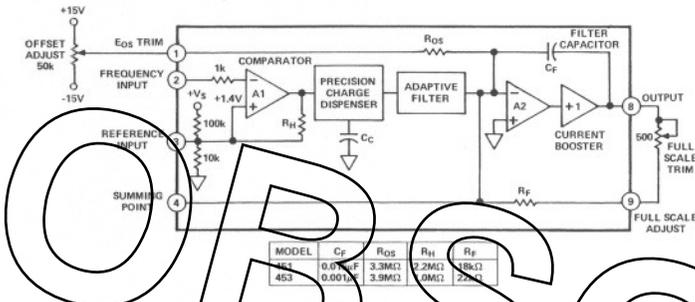

Figure 1. Block Diagram Models 451 & 453 F/V Converters
Models 451 and 453 accept virtually any signal waveshape providing accurate conversion into an output voltage proportional to the input signal frequency. The only restriction is that the input signal must remain above the threshold level for  $20\mu\text{s}$  when using model 451, and  $2\mu\text{s}$  when using model 453. Linear, stable conversion over four decades of input range for model 451 and five decades of input range for model 453, is achieved using a precision charge-dispensing design approach. Figure 1 represents a functional block diagram for both models 451 and 453 frequency to voltage converters.
**Adjusting Input Threshold:** The input comparator of models 451 and 453 shown in Figure 1 conditions the input signals providing protection against noisy environments as well as preventing double triggering with slow rise-time signals. Input levels up to the supply voltages,  $\pm V_S$ , will not cause damage to the input comparator.
$R_H$  (see Figure 1) and the parallel combination of all resistors attached at the comparator positive input. For example, with a  $17.6k\Omega$  resistor connected to the REF terminal, hysteresis becomes  $\pm 35mV$  for model 451 and  $\pm 75mV$  for model 453. The F/V converter will, therefore, trigger at  $+6V \pm 35mV$  for model 451 and  $+6V \pm 75mV$  for model 453.